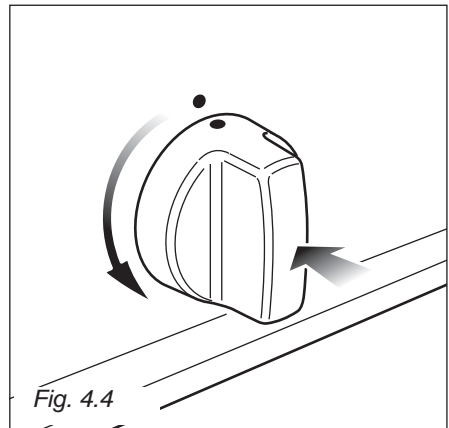

Fig. 4.4
- 2) Lightly press and turn the temperature knob anti-clockwise (fig. 4.4) to the max position (230 ★ fig. 4.1).